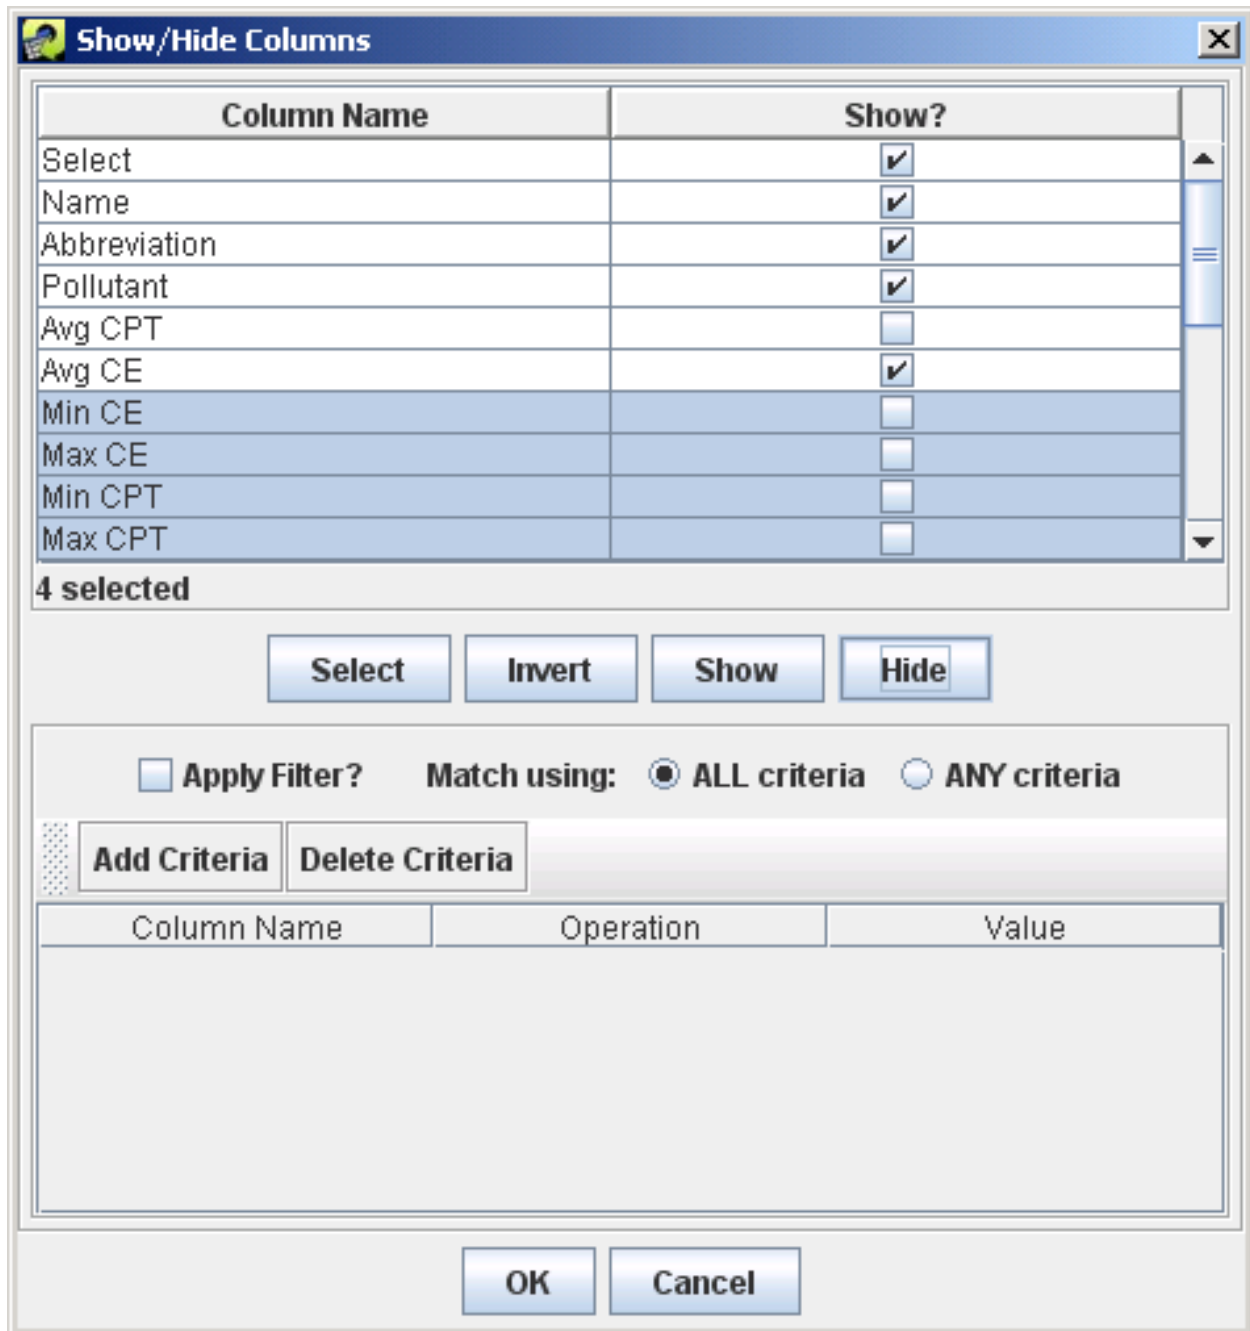

Figure 3.7: Show/Hide Columns Dialog
Step 1-13: Show/Hide Columns. To hide some of the columns that are shown in the table, click the **Show/Hide columns** button . On the Show/Hide Columns dialog that appears (similar to the one shown in Figure 3.7, uncheck some of the checkboxes in the **Show?** column and then click **OK**. The columns you unchecked will no longer display in the control measures table.